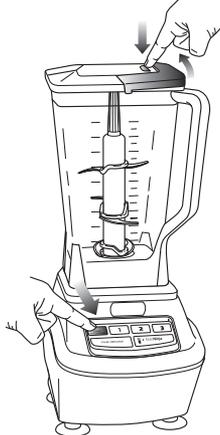
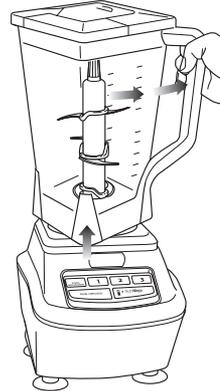

Fig. 7
Fig. 8
- 12 When you have reached your desired consistency, stop the appliance by pressing the power button (⏻) and wait for the attachment to stop turning. **(Fig. 7)**
- 13 To remove the lid, pull the lid handle up to a 90° angle. Turn the bowl clockwise to lift off the base. **(Fig. 7, Fig. 8)**